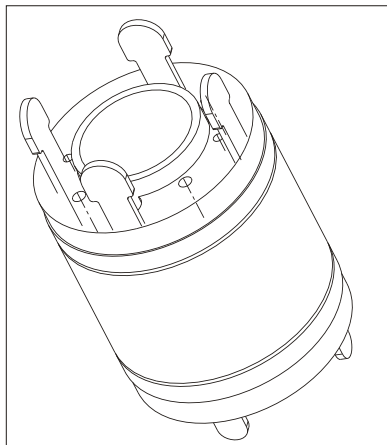

Figure 6: Inserting 1-5 mm thick strips (old 12" hacksaw blades)
7. After inserting the strips shown in Figure 6, push the rubber tube down. This will take some time, however, it needs to be done carefully. Finally, Rubber bladder and body will be separated.